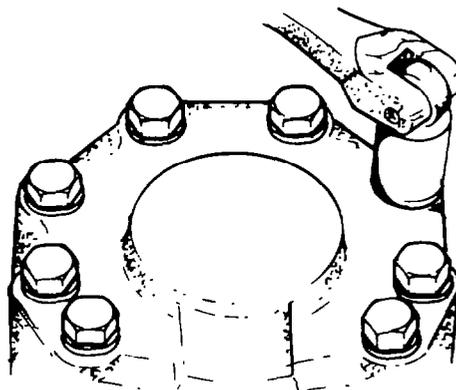

Figure 296 — Pinion Gear Cover — Removal
- b. Remove the eight bolts and washers securing the mounting bracket and the pinion gear cover to the housing (see Fig. 296), then remove the mounting bracket.